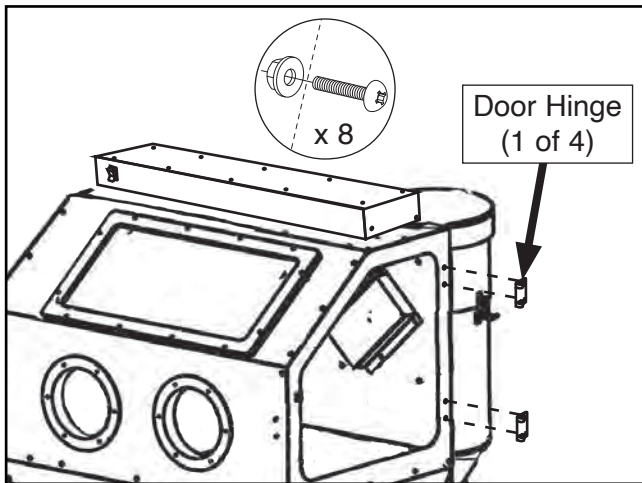

Figure 14. Mounting locations for door hinges.
19. Install (4) door hinges on cabinet body with (8) M6-1 x 12 Phillips head screws and M6-1 flange nuts (see **Figure 14**).